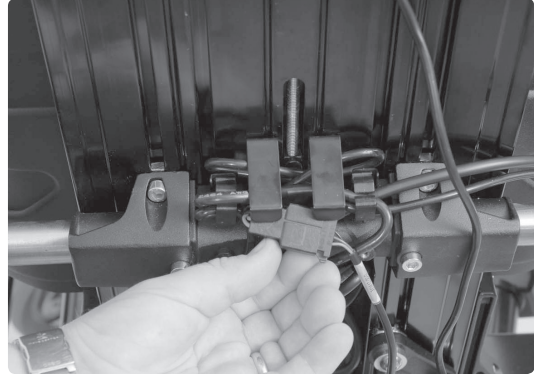

Fig. 3. ICS panel's connection contact.
8. Connect the switches for the switch box, fig. 3.